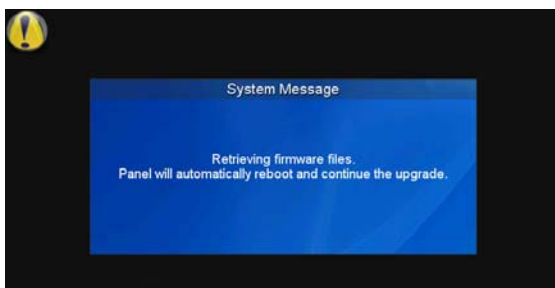

FIG. 116 Factory Firmware Reset system message
5. If you choose **Yes**, the device will retrieve the files and then reboot (FIG. 116).